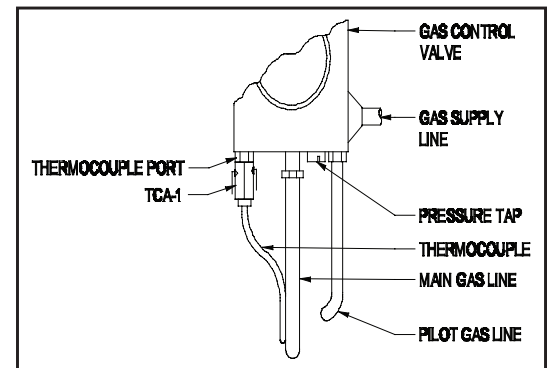

Figure 12
1. Remove thermocouple from gas control valve. (See Figure 12)